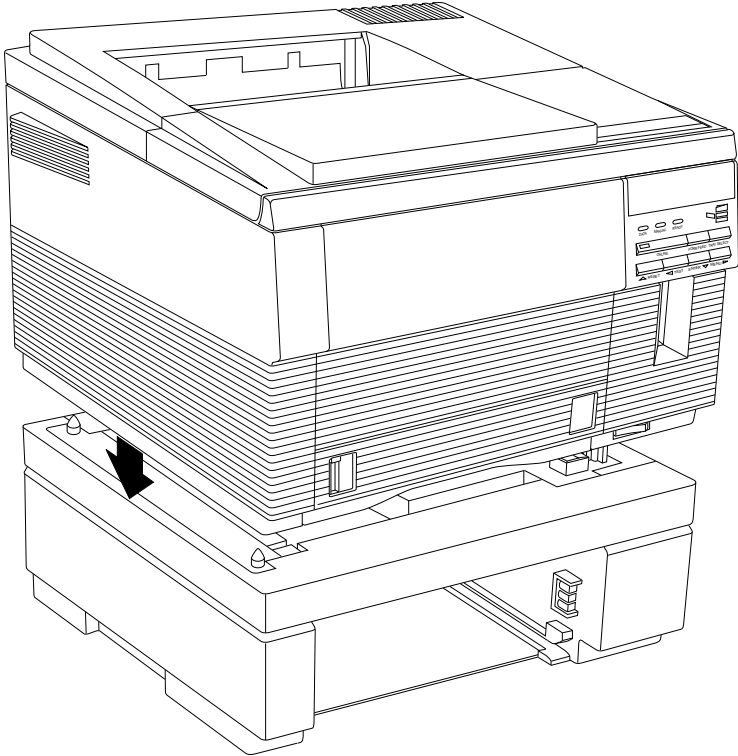

Fig. 9.4 Lower the Printer onto the Feeder
3. With the help of someone else, align the printer over the feeder and gently lower it onto the feeder (fig. 9.4).